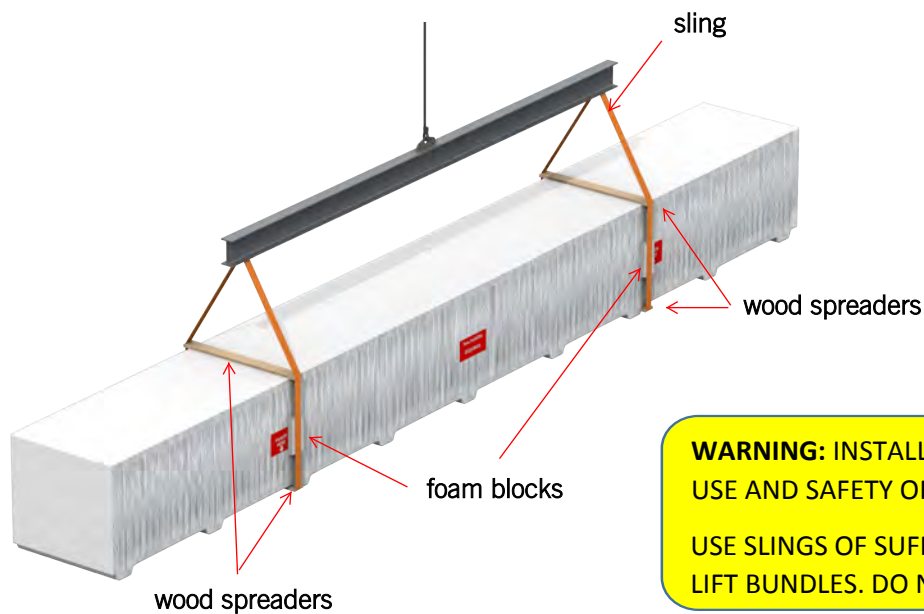

Figure 5.12
5.12 Place foam blocks on sides of bundles at all sling locations as shown in figure 5.12.
5.13 Bundles *under 4,000 lbs. and less than 44'* may be lifted as shown in figure 5.12.